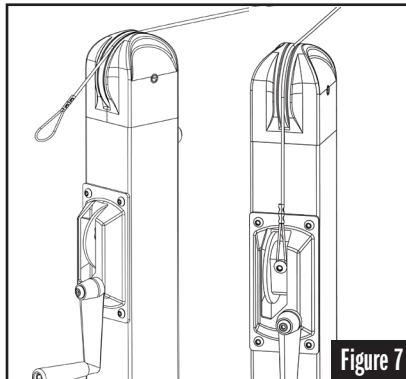

Figure 7
- STEP 8:** - Place the other end of the top cord cable over the pulley of the Winder Post (Item A) and attach the loop around the screw on the crank. Tighten the screw to secure. See Figure 7.